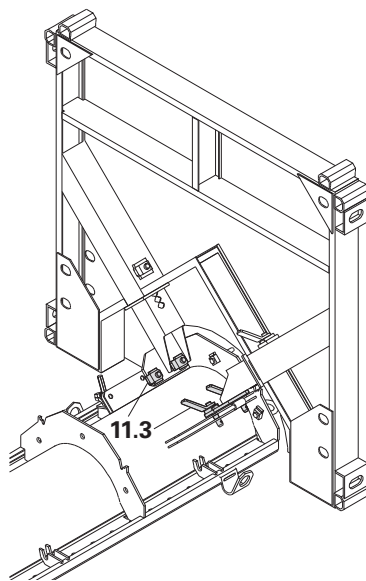

Fig. A2.03
4. Secure Platform by means of bolts (11.3). (Fig. A2.03)